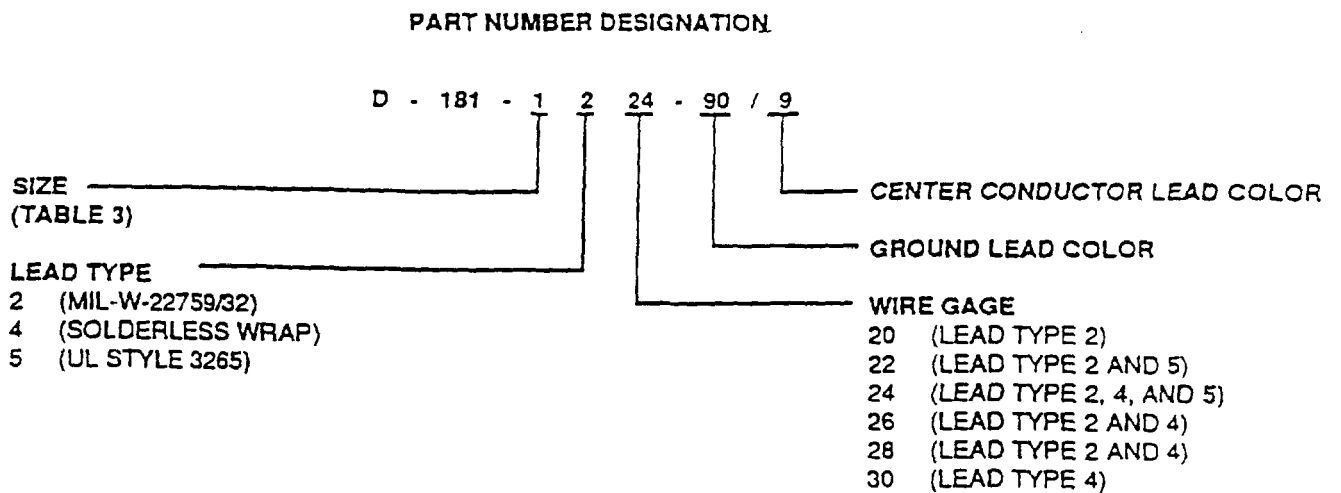

Figure 9 . High Temperature Coaxial Cable Solder Sleeve Selection
24. **High Temperature Part Number Breakdown.** (Figure 9) provides the part number breakdown for the Series D-181 high temperature coaxial cable solder sleeve terminations (Table 2).